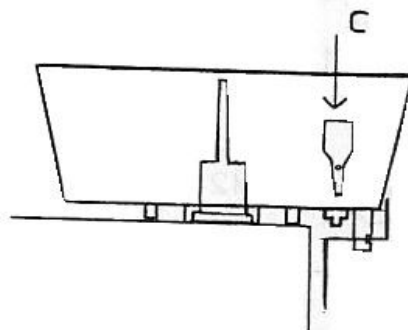

Fig. 5
- 4 insert the tap steam into the bowl (see Fig.5)